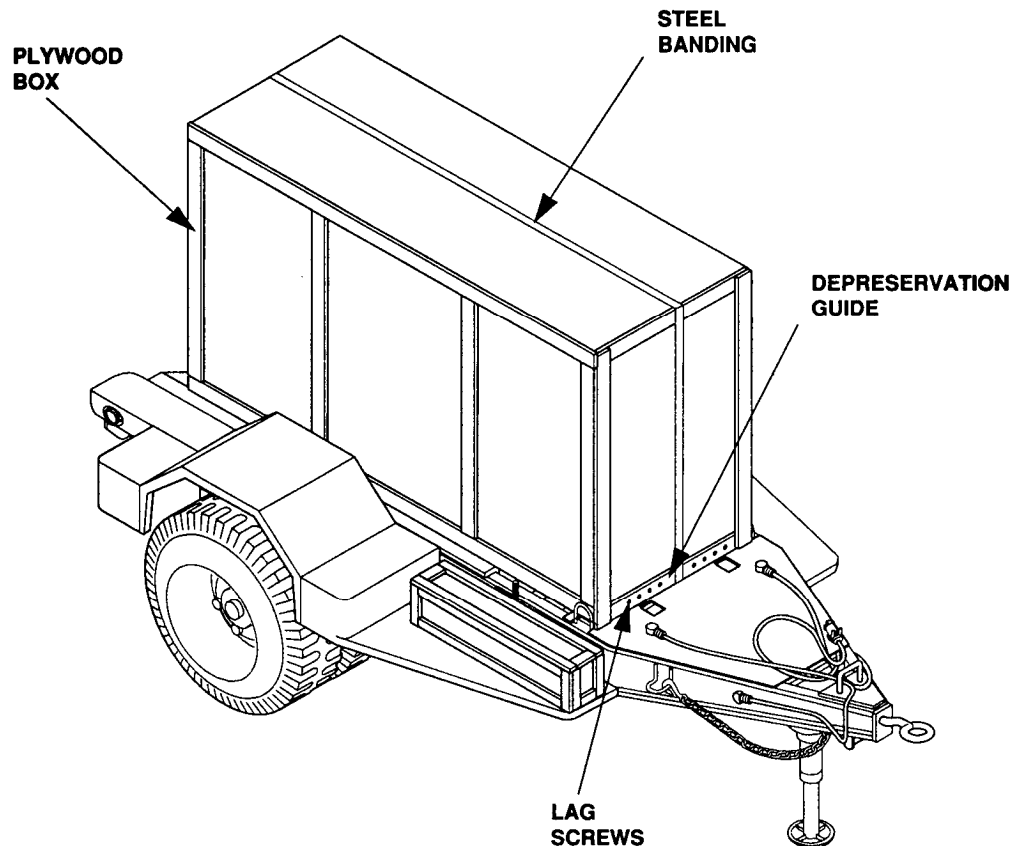
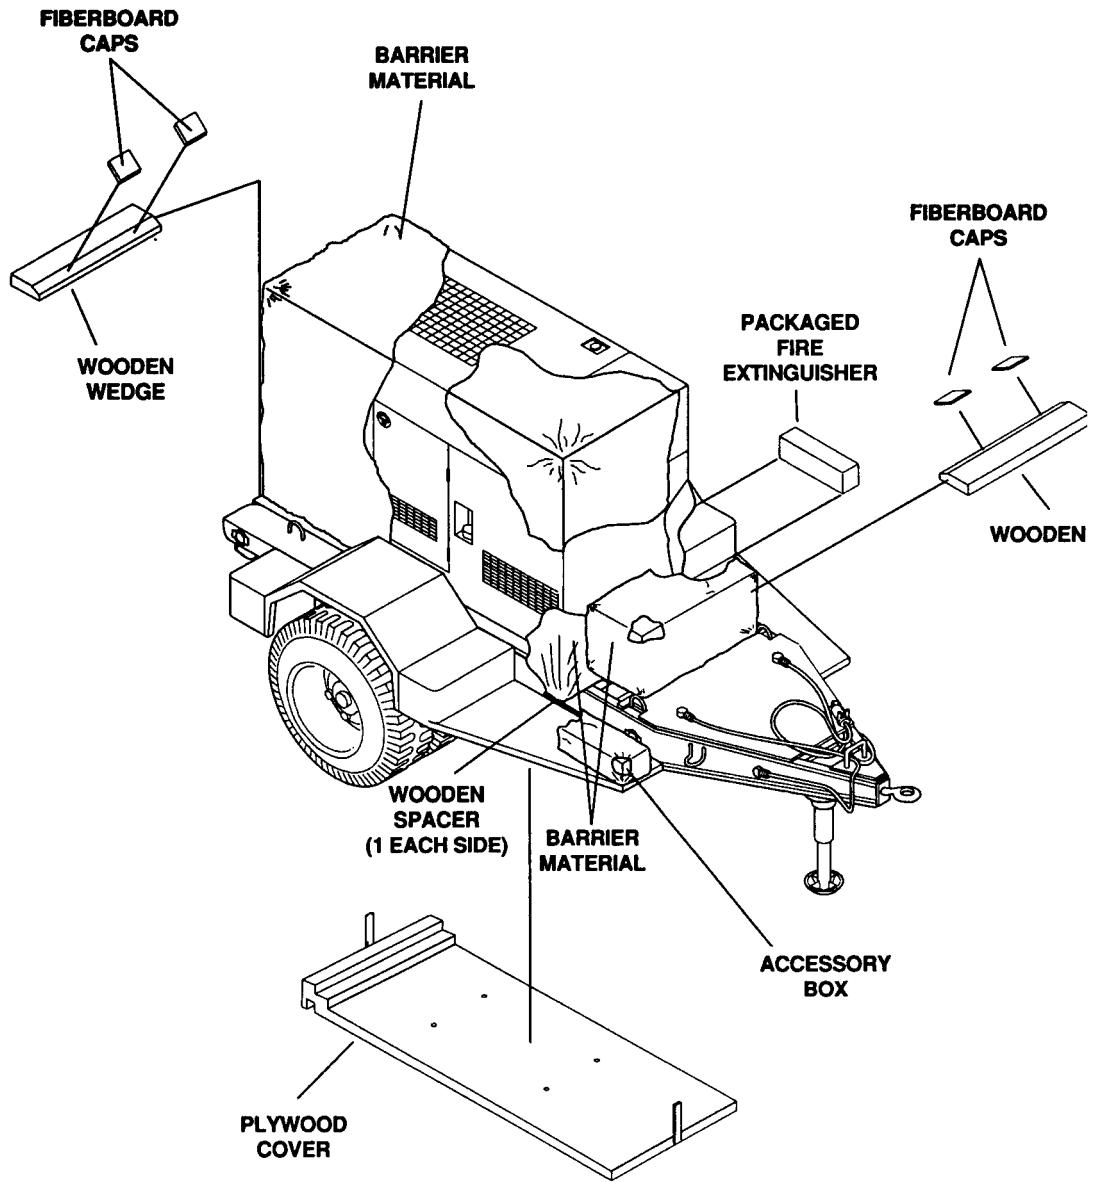

Figure 4-1. Power Unit Packed for Shipment.
Figure 4-2. Unpacking Power Unit.
4-4.1 Unpacking Power Unit. (Refer to figure 4-1 and figure 4-2.) The power unit is boxed prior to shipment. The PU-803 and PU-804 are identical with the exception of the electrical output frequency of the generator sets. Two PU-803 Power Units makeup the AN/MJQ-40 power plant. Therefore, the unpacking procedures are typical for each configuration. Each generator set is packed in place on its respective trailer. Before beginning the unpacking procedure, locate and remove Depreservation Guide.
- d. Refer to figure 4-2 and remove wooden wedges, spacers, and fiberboard caps from around genator set skid bases.